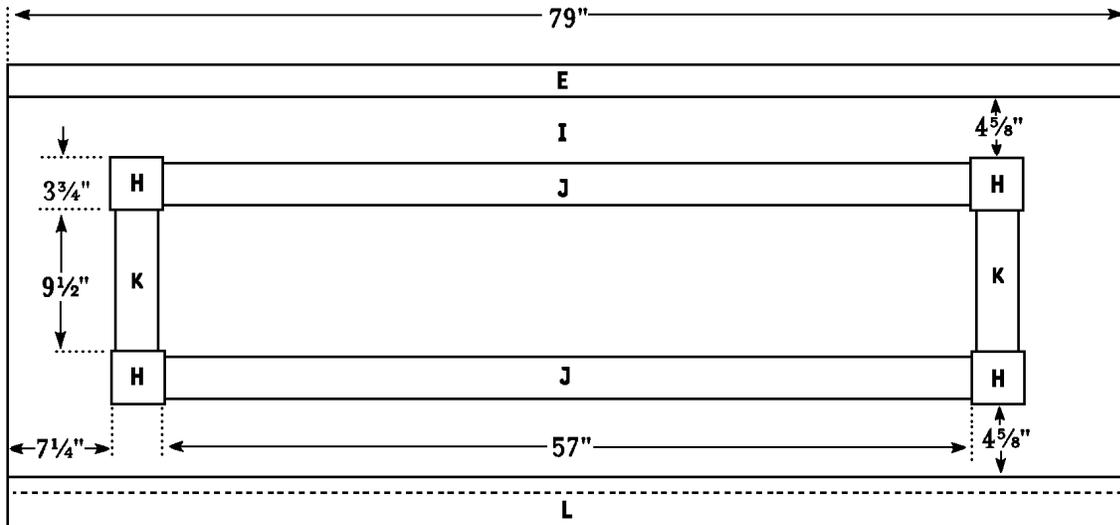

Figure 5
5. Cut two Short Molding (G) from 3-inch-wide beaded molding, each measuring 5 inches.
6. Referring to Figure 5, position the Long and Short Moldings (F and G) and four Decorative Squares (H) on the Headboard (D). Note that the 3-inch-wide moldings must be centered width-wise on the 3-3/4-inch-wide decorative squares. Nail through each corner of the four Decorative Squares (H) using 1-1/4" finishing nails. Nail through the molding using 1" finishing nails. Use two nails on each of the short Moldings (G), and eleven on each of the Long Moldings (F).
1. Cut one Footboard (I) from  $\frac{3}{4}$ " plywood measuring 79 x 28 inches.
2. Locate the Top Rail (E) that you set aside earlier, and center the Top Rail (E) over the one 79-inch-edge of the Footboard (I). Apply glue to the meeting surfaces, and nail through the Top Rail (E) into the edge of the Footboard (I) using 2" finishing nails spaced every 6 inches.
3. Cut two Long Footboard Moldings (J) from 3-inch-wide beaded molding, each measuring 57 inches.
4. Cut two Short Footboard Moldings (K) from 3-inch-wide beaded molding, each measuring 9-1/2 inches.
5. Referring to *Figure 5*, position the Long and Short Footboard Moldings (J and K) and four Decorative Squares (H) on the Footboard (I). Note that the 3-inch-wide moldings must be centered width-wise on the decorative squares. Nail through each corner of the four Decorative Squares (H) using 1-1/4" finishing nails. Nail through the molding using 1" finishing nails. Use two nails on each of the Short Footboard Moldings (K), and eleven on each of the Long Footboard Moldings (J).
6. Cut one Base Rail (L) from 1 x 4 pine measuring 79 inches.
- Apply glue to the meeting surfaces, and attach the Base Rail (L) to the bottom of the Footboard (I). The top of the Base Rail (L) should overlap the bottom of the Footboard (I) 1 inch. Use 1-1/4" finishing nails spaced every five inches.